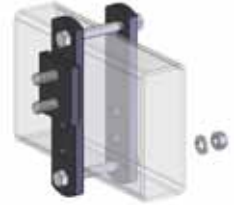

Figure 10a
**Style A:** If your coupler matches style A, place your link plates so that the single hole is above the frame, and the L-bracket studs are toward the top of the frame on the outside. See Figure 10a.